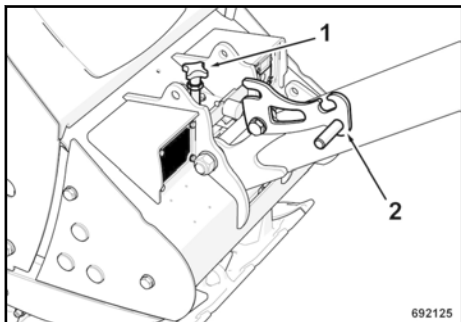

Fig. 15
Pull the locking pawl lever (2) ↖ Fig. 15 and lower the steering rod, so that it can swing freely.